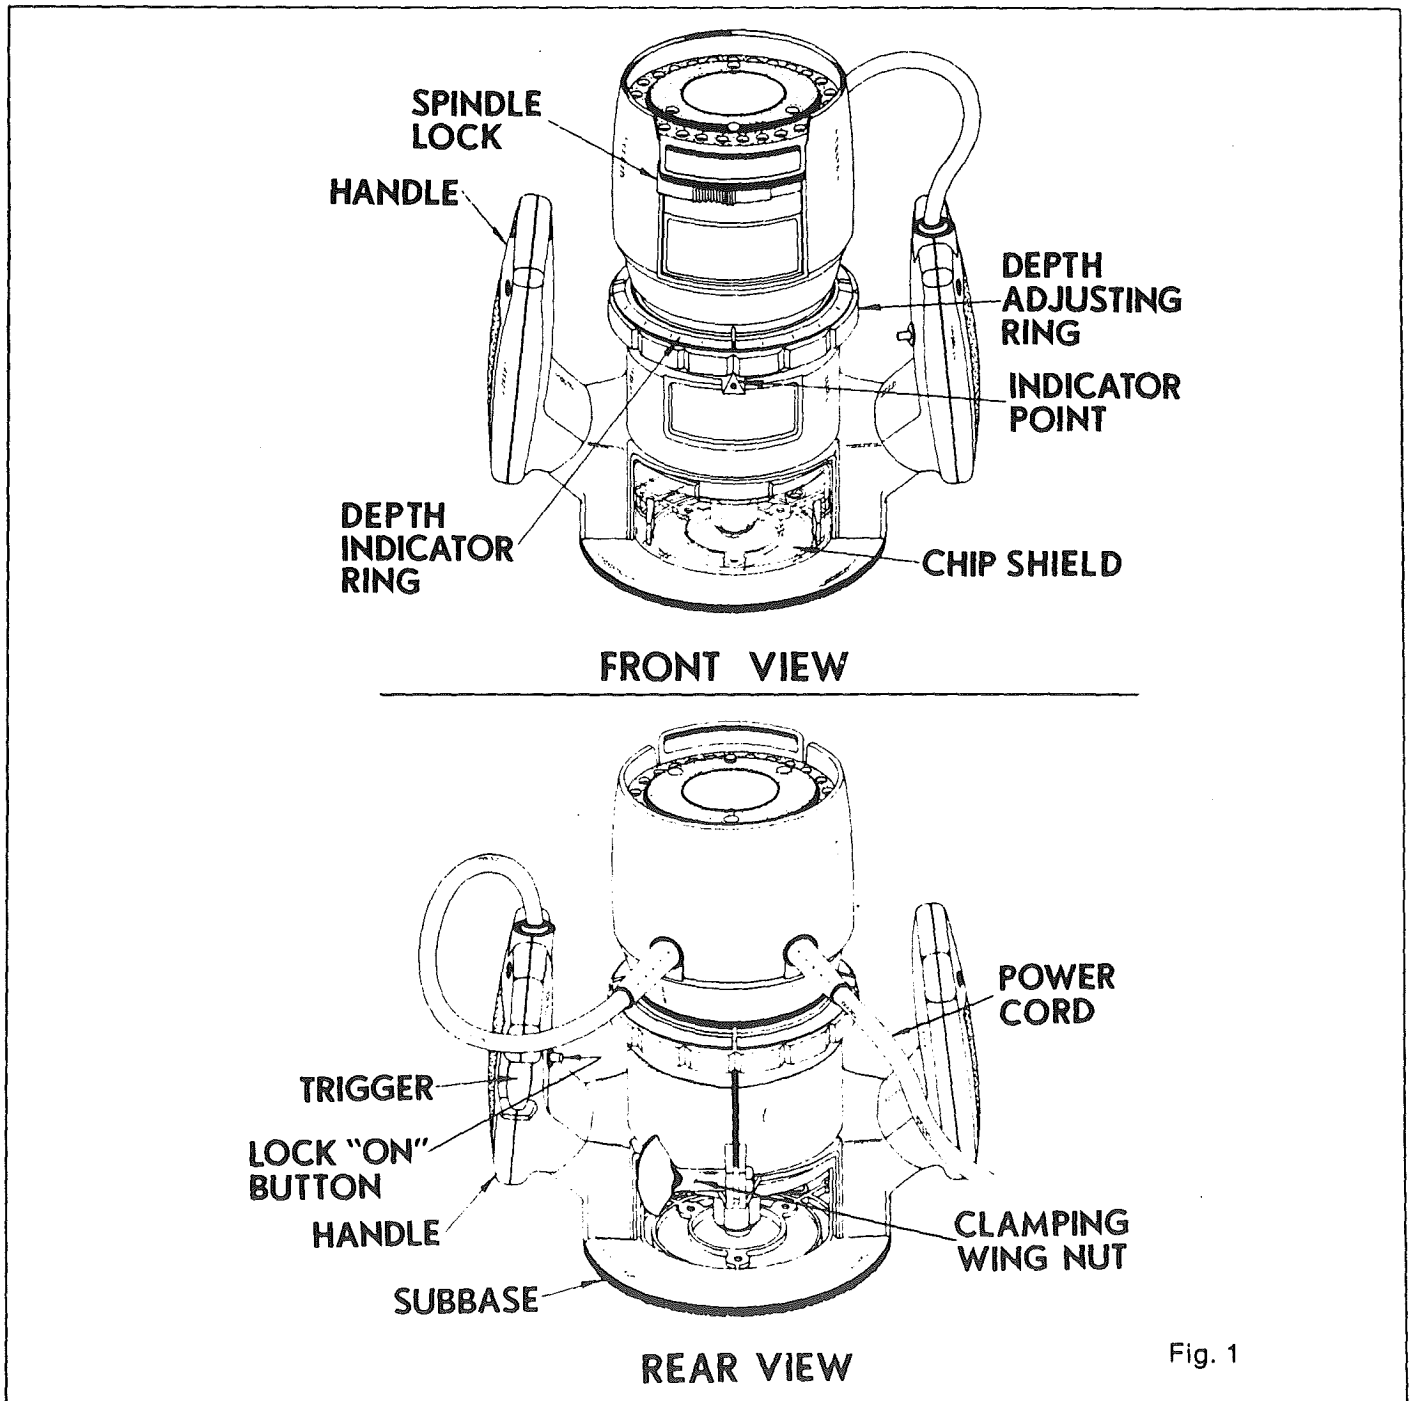

Fig. 1
Before attempting to use your Router, familiarize yourself with all operating features (See Fig. 1) and safety requirements. **WARNING: DO NOT ALLOW FAMILIARITY WITH YOUR ROUTER TO MAKE YOU CARELESS. REMEMBER THAT A CARELESS FRACTION OF A SECOND IS SUFFICIENT TO INFLICT SEVERE INJURY.**
A clear plastic chip shield is installed on the front of the router for protection against flying dust and chips. The chip shield is designed to fit the front opening of the router base as shown in figure 1. If necessary to remove, squeeze the tabs on each end and pull outward. To replace, squeeze the tabs at each end, fit into the opening, then release. **DO NOT USE ROUTER WITHOUT CHIP SHIELD PROPERLY IN PLACE.**
1. A spindle lock is located on the side of motor housing. See figure 1. To activate lock, push spindle lock in and slide into lock position. **NEVER** attempt to activate spindle lock while router motor is running or coasting to a stop.